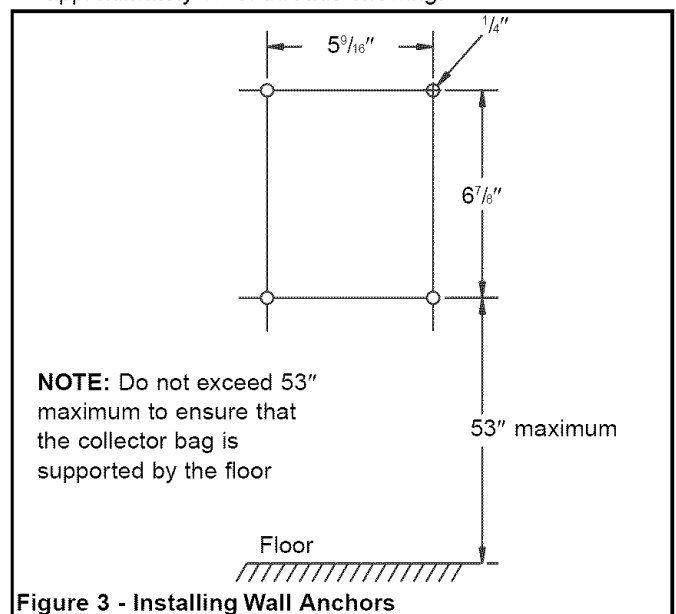

Figure 3 - Installing Wall Anchors
Refer to Figure 3.
- Mark the location of anchors on the wall according to Figure 3.